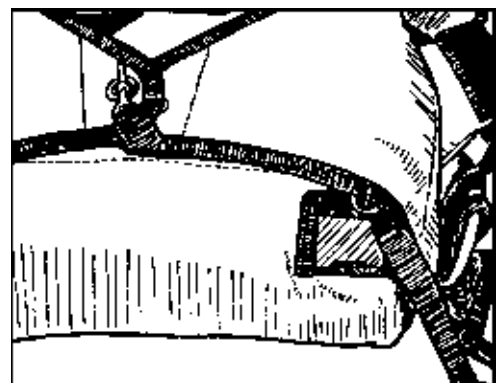

Figure 5
Step 4 Close the container in the numbered sequence (top, bottom, right, left) making sure the handle and tab exit the lower right hand corner. Secure the locking loop with the pin on the end of the pull-out lanyard. *Figure 5*